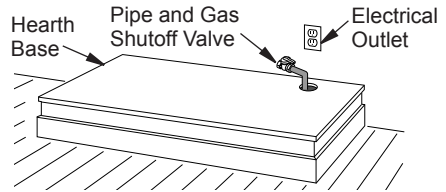

Figure 10 - Placing Hearth Base Against Wall
C. For mantel clearances, see Figure 10 on page 13.
2. Place hearth base against wall at installation location. Cut an access hole in hearth base to run gas line to fireplace (see Figure 10). Make sure to locate access hole so cabinet mantel will cover it when installed. *Note:* You can secure base to floor using wood screws. Countersink screw heads and putty over.